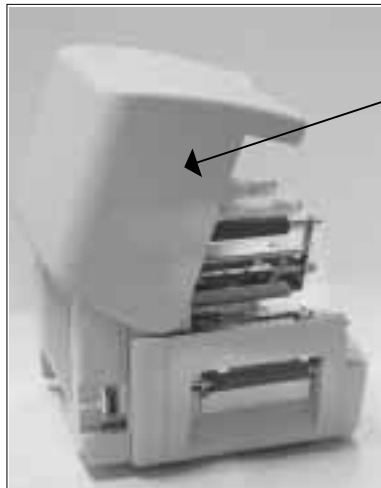

Fig. 6-46
2.	Raise and detach cover for access to mechanical section. Fig.6-46